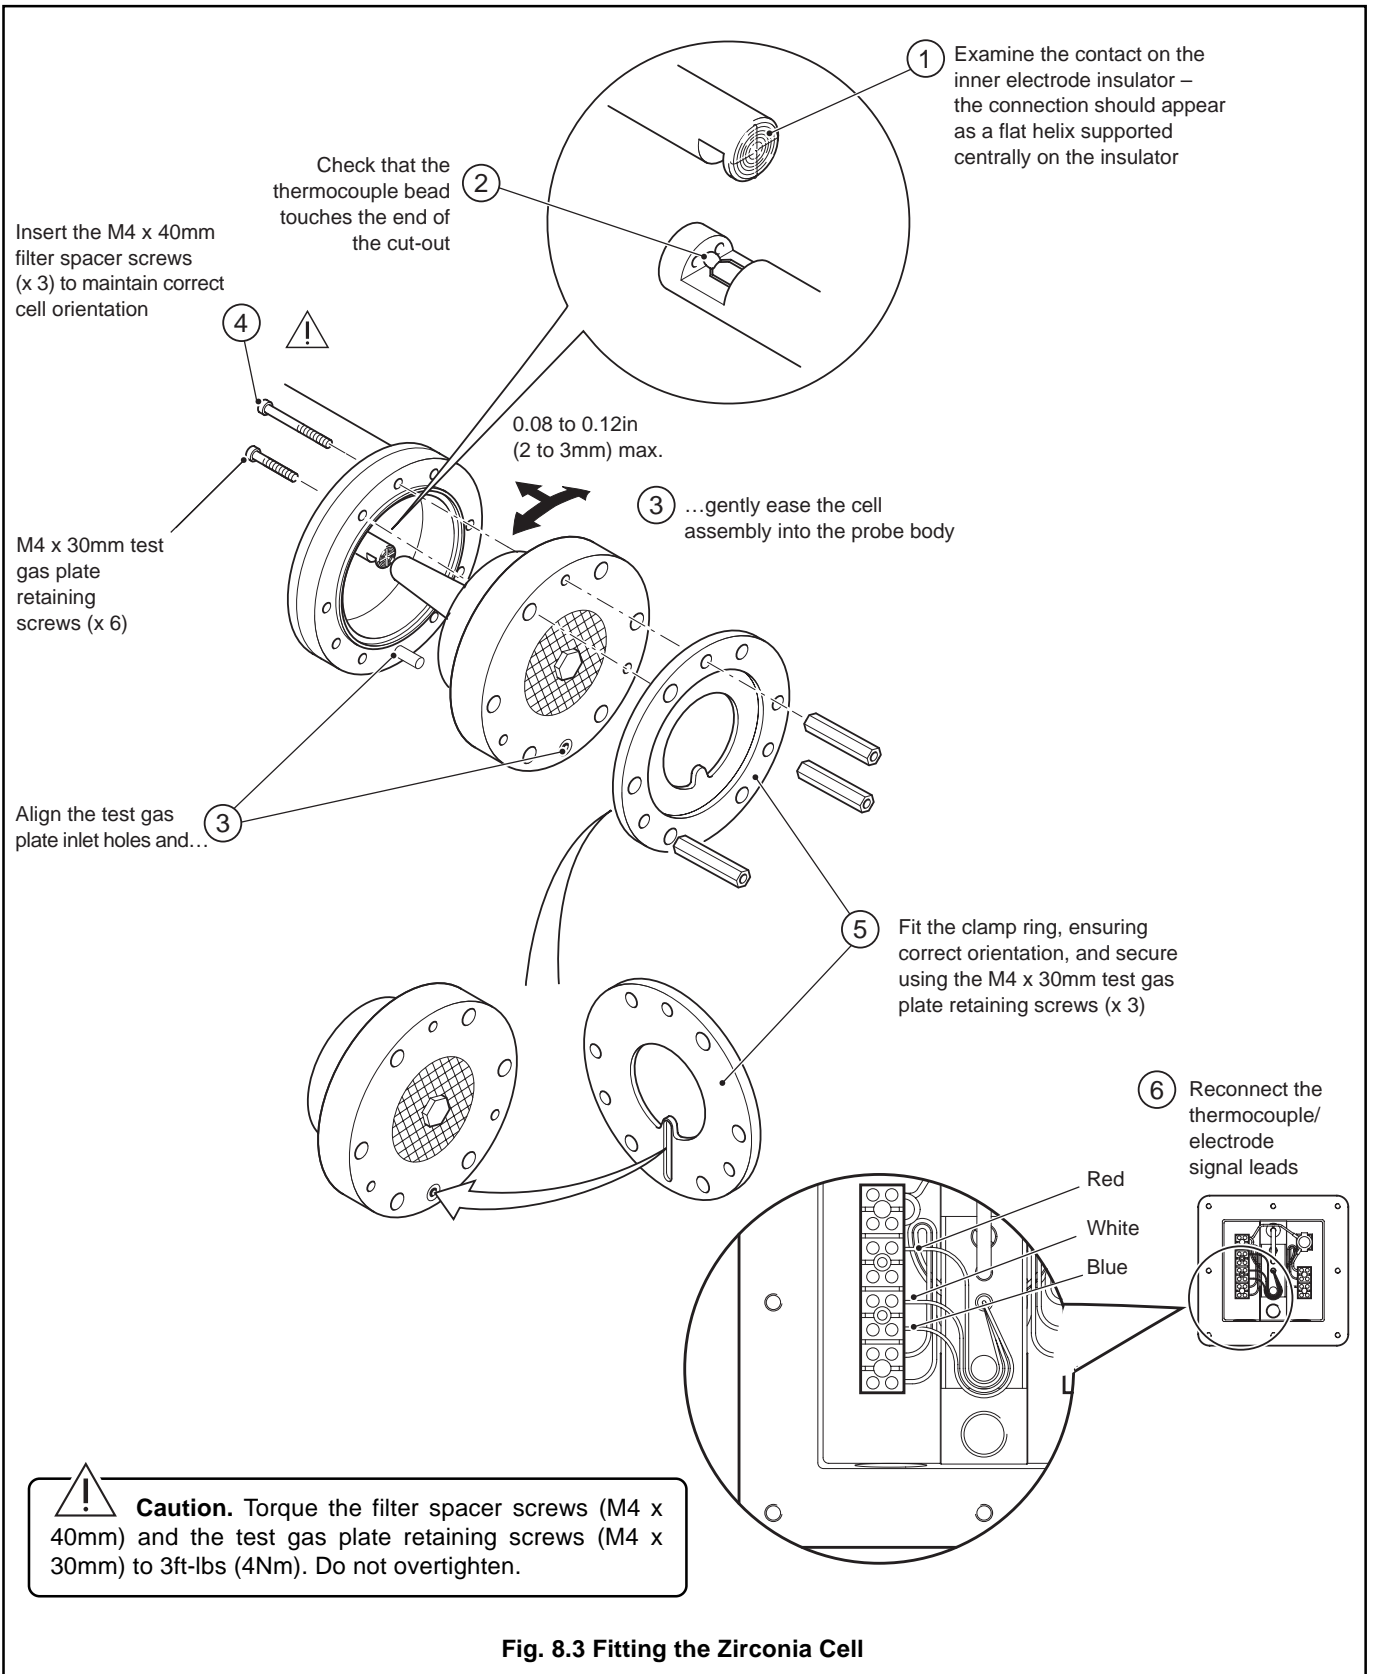

Fig. 8.3 Fitting the Zirconia Cell
8.2.2 Fitting the Zirconia Cell – Fig. 8.3
- a) Carry out the procedures described in Fig. 8.3.